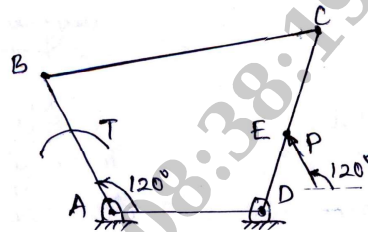

Fig.Q3(b)
- b. A four bar mechanism as shown in Fig.Q3(b), is acted upon by a force $P = 100\sqrt{120}$ N on link CD. The dimensions of various links are $AB = 40$ mm, $BC = 60$ mm, $CD = 50$ mm, $DA = 30$ mm and $DE = 20$ mm. Determine the magnitude and direction of input torque 'T' on the link AB for the static equilibrium of the mechanism.